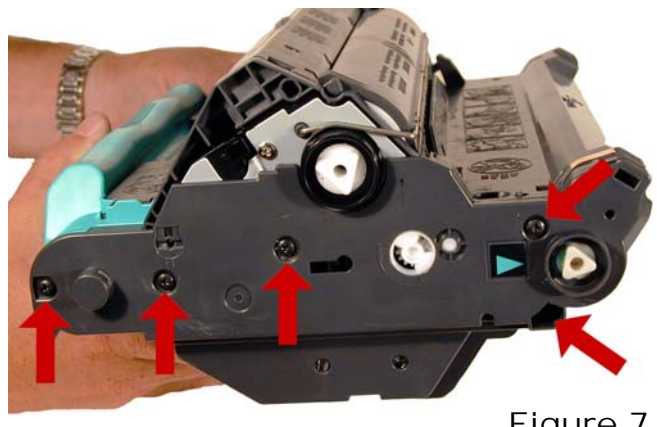

Figure 7
5) On the opposite side, remove the 5 screws from the end cap, a small white indicator gear may also come off, place it aside. See **Figure 7**